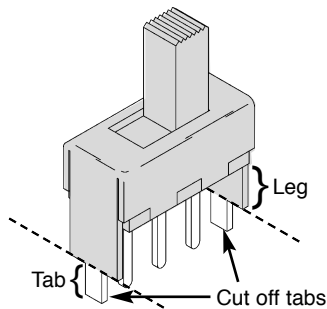

Figure 6
- ☐ SW1 - Switch (see Figure 6)
- ☐ SW2 - Switch (see Figure 6)